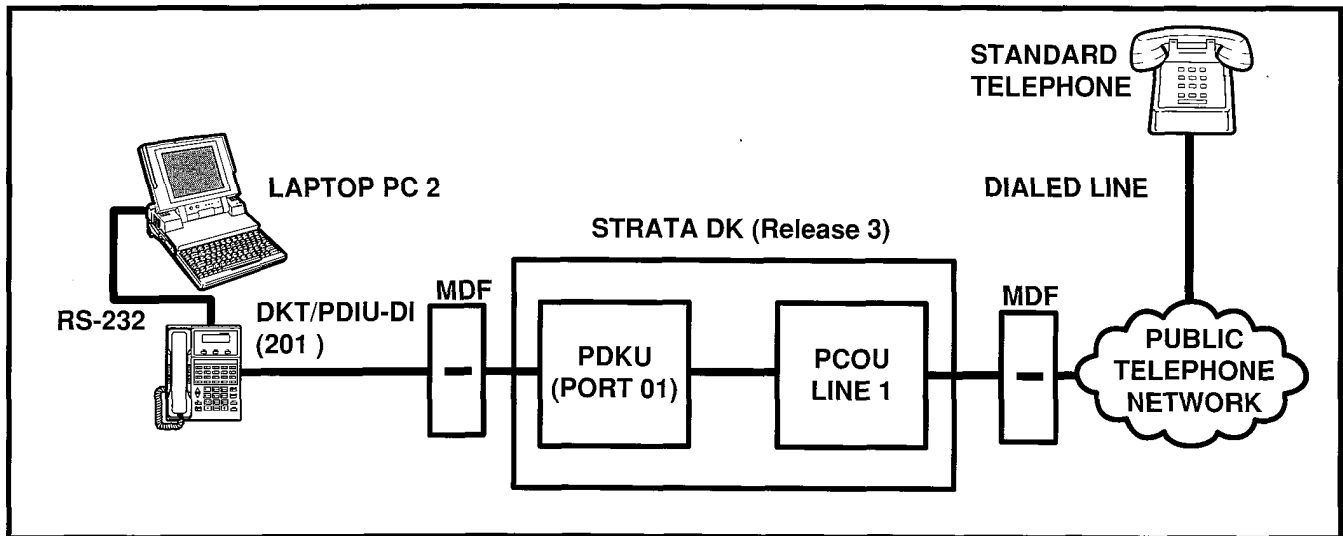

FIGURE 8-39—PC AUTO DIAL VOICE CALL TEST
12.86 PC Auto Dial Voice Call Test (see Figure 8-39)